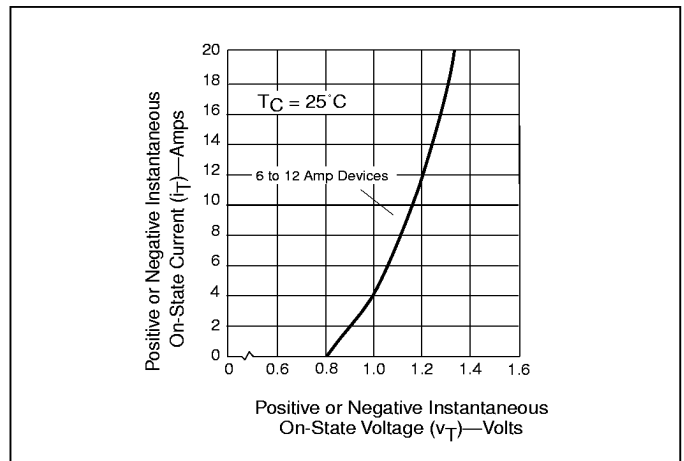

Figure 4.5 On-State Current vs On-State Voltage (Typical) (6-12 Amp Devices)
- See Figures 4.5 and 4.6 for i_T and v_T .